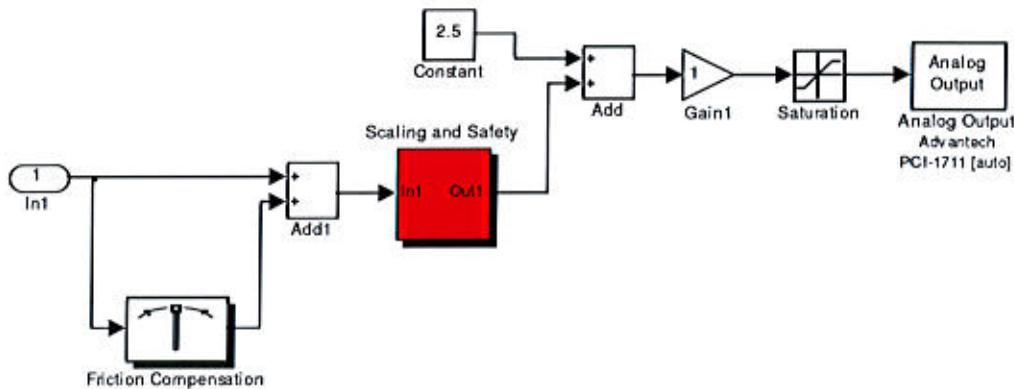

Figure 42 Feedback DAC Block - Under Mask
- Choosing "Look under Mask" will cause the subsystems to appear (Figure 42).